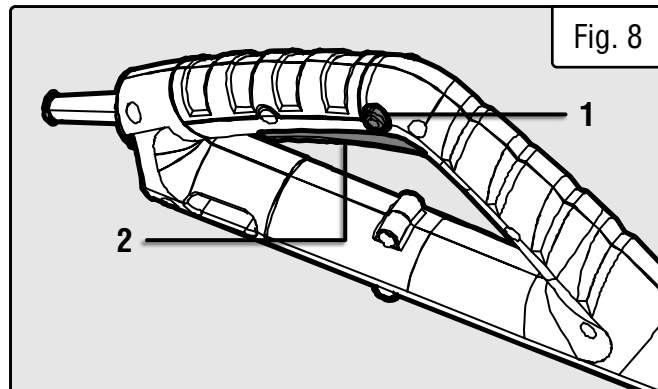

Fig. 8
2. Press the trigger lock (Fig 8 - 1) and simultaneously pull the power trigger (Fig. 8 - 2).
1. Firmly press both of the tabs (Fig. 8 - 1) on the spool cap and remove it from the spool casing. Remove the old string spool from the casing.
3. Thread the string through the holes (Fig. 8 - 2) on the side of the spool casing and reinstall the spool cap.